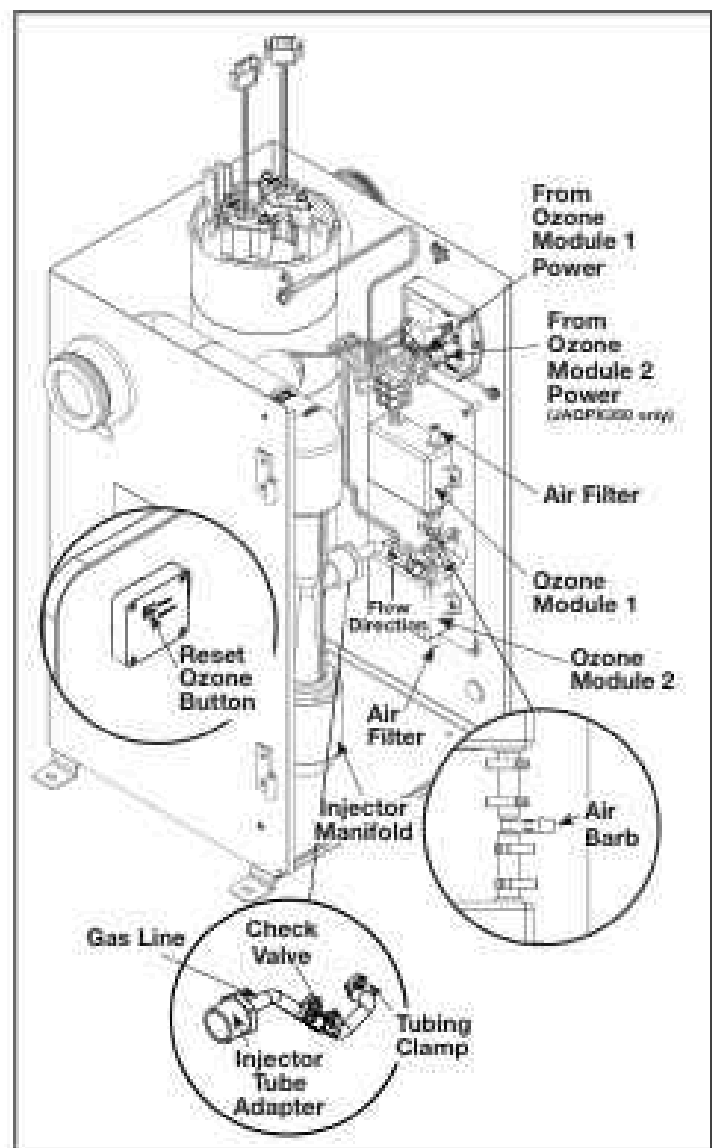

Figure 13. JAOPX200 / JAOPX350 Ozone Modules
8. Reset ozone indicator by pressing the Reset Ozone button on the inside door behind the status LED indicators. See Figure 13 Reset Ozone Button inset.
2. Loosen the tubing clamps on both ends of the ozone gas line. Remove the tubing assembly from the air barbs of injector tube adapter and the ozone output barb on the ozone module (used on model JAOPX200) or the T-fitting adapter (only used in model JAOPX350). See Figure 13 air barb inset.
3. Orient ozone gas line as shown in Figure 13 (note flow direction callout), ensuring the gas flows towards the injector manifold. Re-connect onto the air barbs of the injector tube adapter and the ozone output barb on the ozone module (used on model JAOPX200) or the T-fitting adapter (only used in model JAOPX350). Use pliers to secure all clamps previously removed or loosened.
5. Pull the tubing from injector tube adapter, then unthread the adapter from the injector manifold. See Figure 13 injector tube adapter inset.